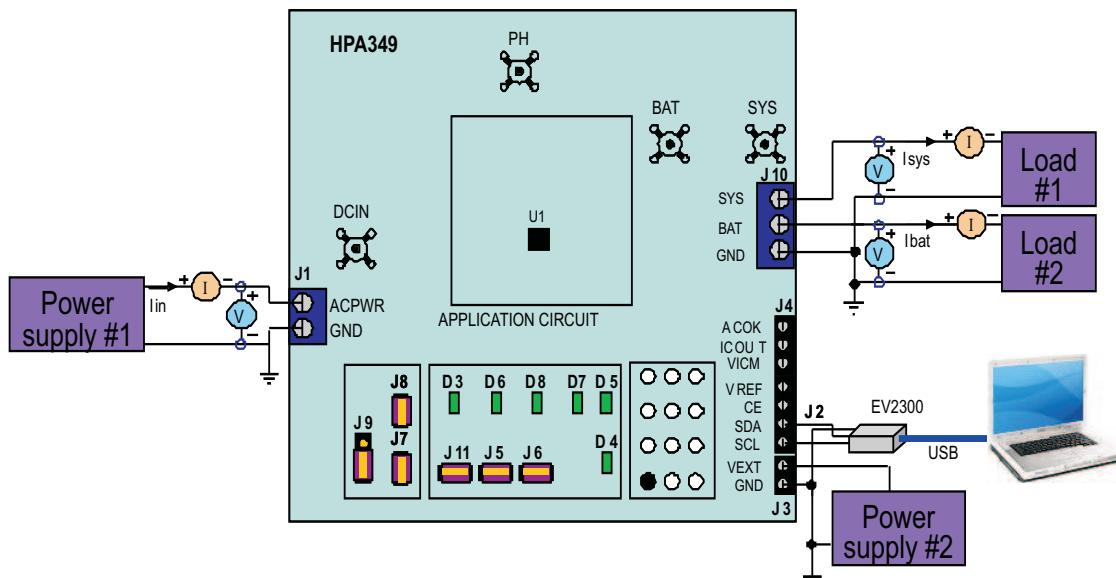

Figure 4. Test Setup for HPA349
2.4.3.3 Connect the output of the Load #1 in series with a current meter (multimeter) to J10 (SYS, GND). Make sure a voltage meter is connected across J10 (SYS, GND). Turn on the power of the Load #1. Set the load current to $4.0A \pm 50mA$ but disable the output. The setup is now like Figure 4 for HPA349. Make sure $I_{bat} = 0A \pm 10mA$ and $I_{sys} = 0A \pm 10mA$.